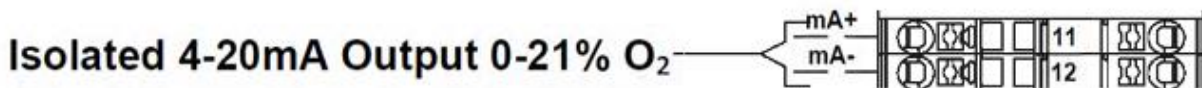

Figure 5- Analog Output
1. The standard OxyPro has an analog output to communicate with your DCS system. For the analog outputs available, please refer to Figure 5